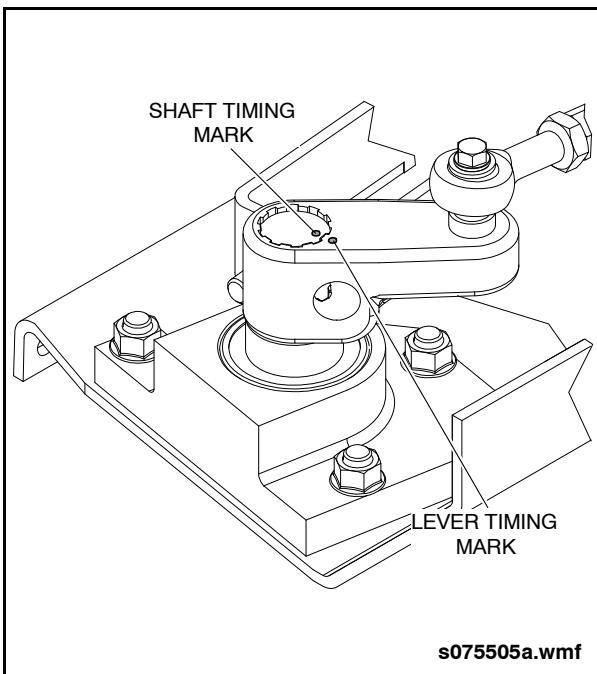

Fig. 16-3: Timing Marks
4. Reinstall door shaft levers ensuring timing marks on shaft and lever are aligned. Tighten pillow block bearing collar set screws and torque operating lever lock bolts to 47 ft-lb. (64 Nm). See "Fig. 16-3: Timing Marks" on page 9.